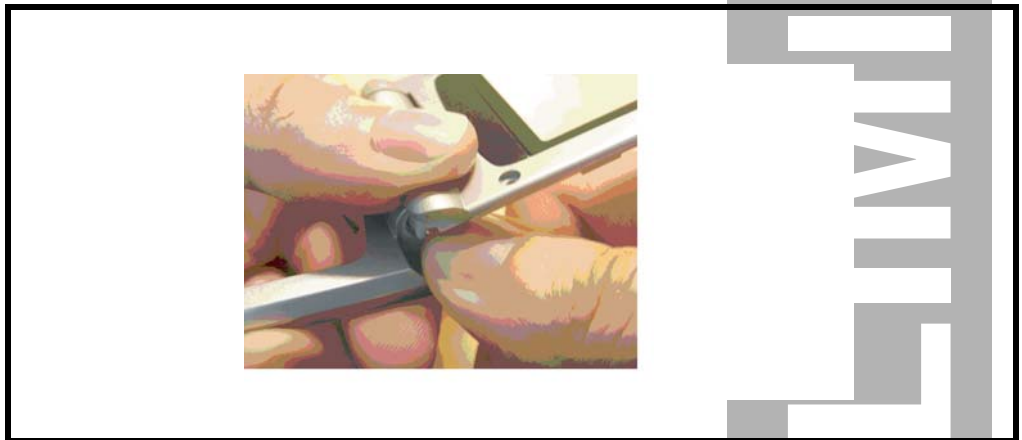

Figure 47. Assembling Case-C and Case-B
8. Press the hinge and push the Case-C into the left side of Case-B as shown in Figure 47.